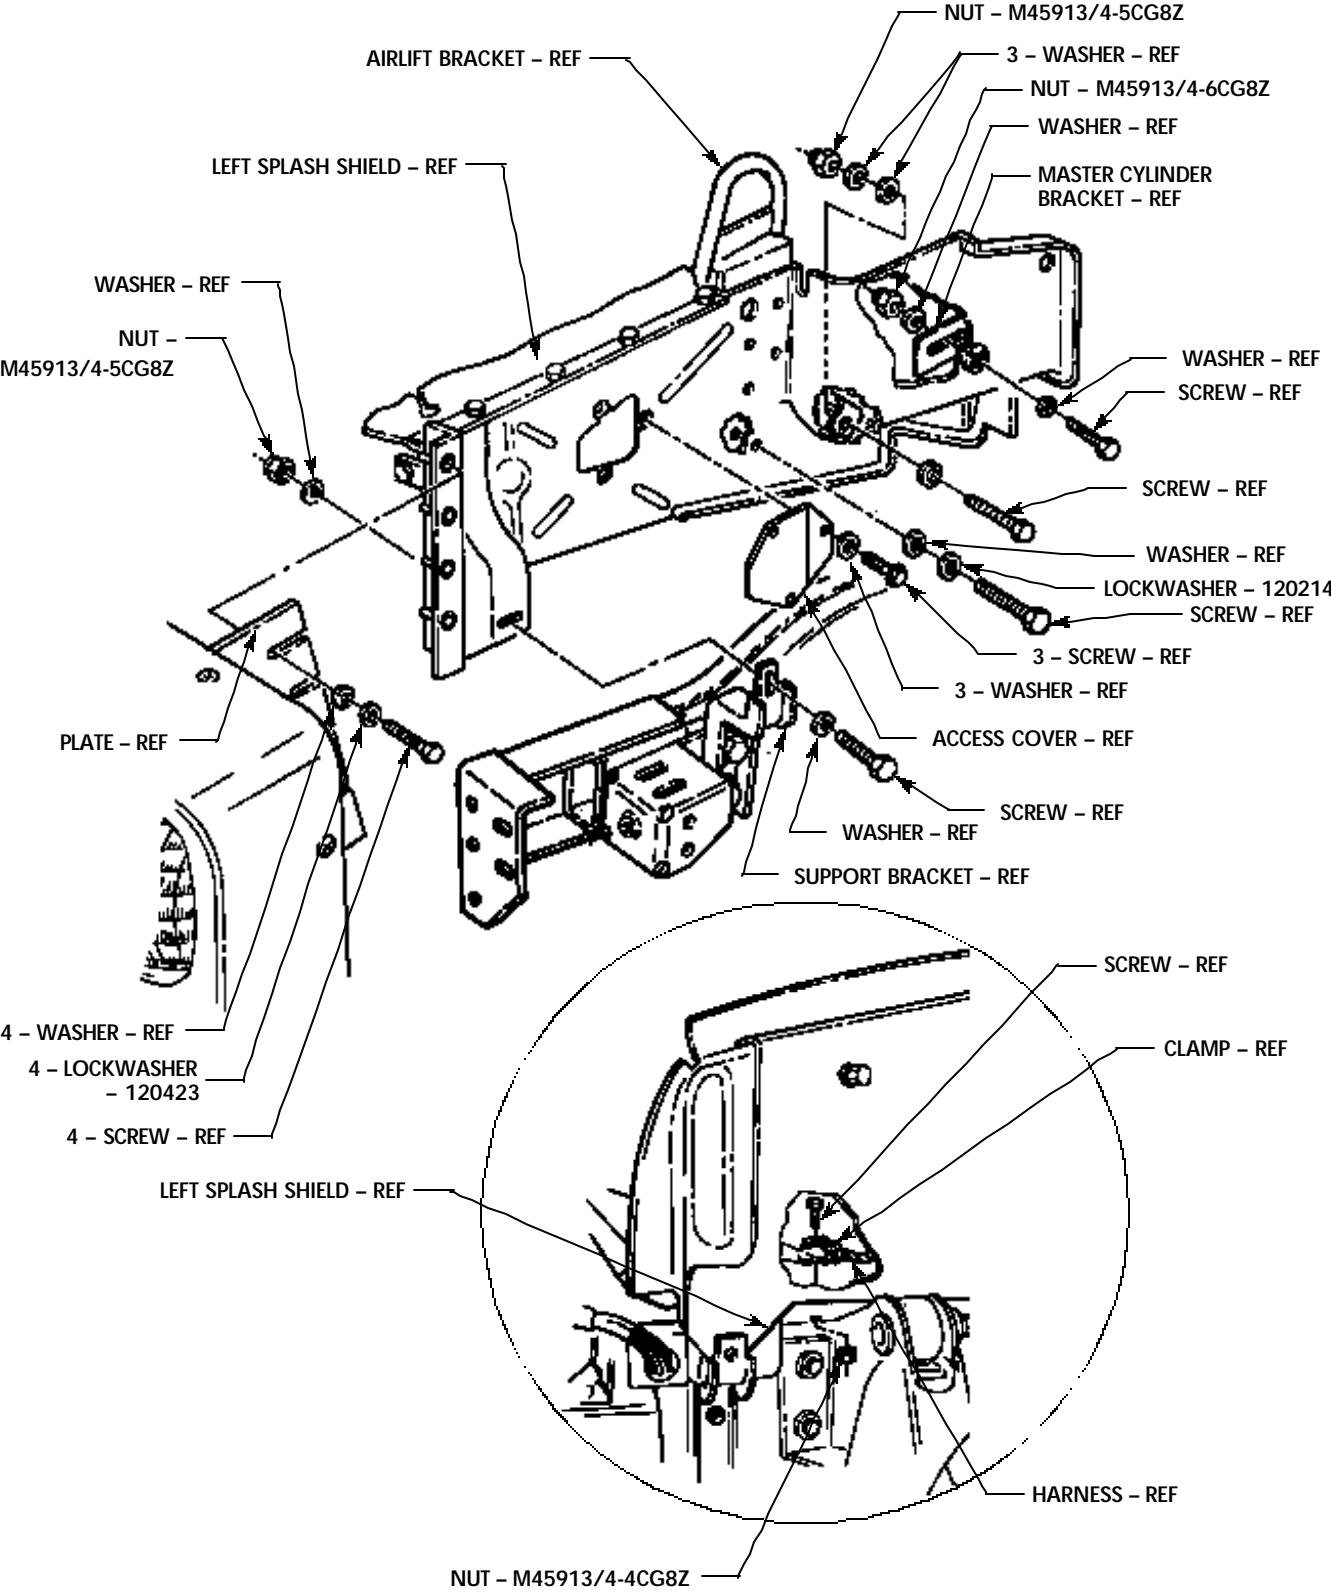

FIGURE 2
- (1) Install harness and clamp on left splash shield with screw and M45913/4-4CG8Z nut as shown in figure 2.
- (2) Install screw, washer, and 120214 lockwasher on left splash shield and airlift bracket as shown in figure 2.
- (3) Install screw, three washers, and M45913/4-5CG8Z nut on left splash shield and airlift bracket as shown in figure 2.
- (4) Install left splash shield on master cylinder bracket with two washers, screw, and M45913/4-6CG8Z nut as shown in figure 2.
- (5) Install left splash shield on support bracket with two washers, screw, and M45913/4-5CG8Z nut as shown in figure 2.
- (6) Install left splash shield on plate with four washers, 120423 lockwashers, and screws as shown in figure 2.
- (8) Install access cover on left splash shield with three existing washers and screws as shown in figure 2.